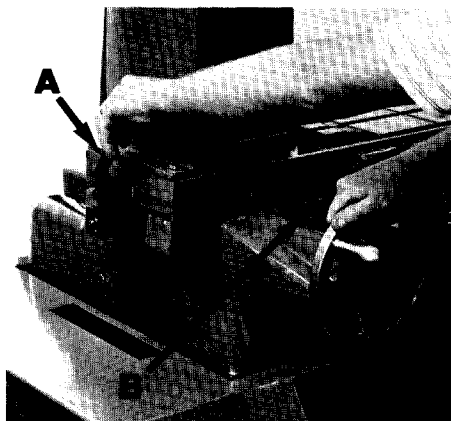
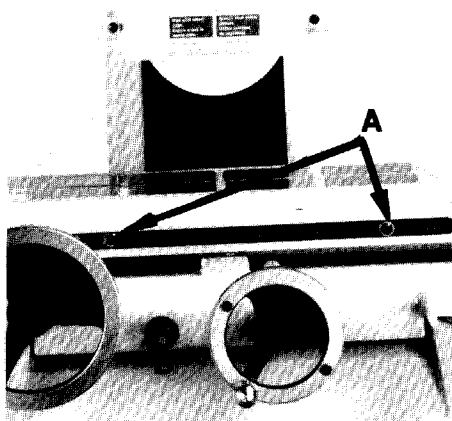

Figure 8
Figure 9
**WARNING:** When first starting table to run automatically, make certain proximity sensors are between trip dogs. To connect powered longitudinal feed, crank table to right as far as it will go. Bring locking lever (A, Fig. 8) forward and down into slot in bracket to engage groove in the pilot nut on the end of the cylinder rod. Be sure lever is seated all the way into the groove. Adjust the two dogs (A, Fig. 9) to within a few inches less
than the desired table travel. Press "hydraulic start" button. Disengage handwheel by loosening thumb screw (B, Fig. 8) on left side of cross travel saddle and pull longitudinal feed handwheel out about 1-1/4 inches. (Fig. 8) Momentarily rotate the "table" switch on the push button panel to the "start" position. (The handwheel electrically locks out the hydraulic feed when engaged.) Once the table is started, the control will keep track of directions and reversals until the main disconnect is turned off, even if the proximity switch is tripped while moving the table manually. The table will now power feed (back and forth) at a speed determined by the speed control knob. (B, Fig. 9)
table hits internal stop. Lift up locking lever (A, Fig. 8) to clear the pin and flip it to its back disengage position.